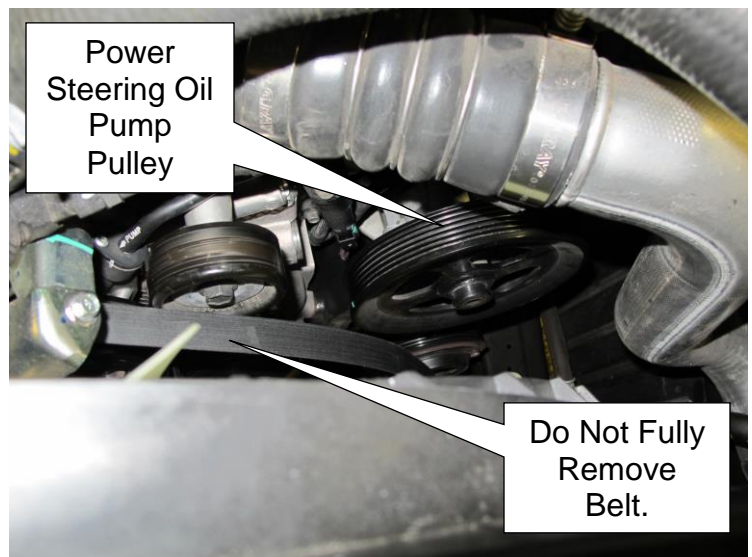

Figure 3
- Remove the belt from the power steering oil pump pulley (Figure 3).